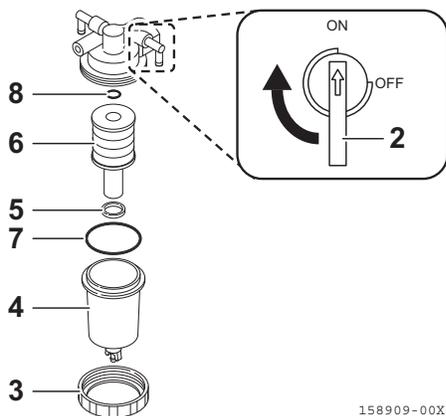

Fig. 8-45
2. After setting the fuel cock (Fig. 8-45, 2) to OFF (closed position), loosen the retainer ring (Fig. 8-45, 3) and remove the cup. Be careful not to loose the float (Fig. 8-45, 5) when removing the cup (Fig. 8-45, 4).
3. Remove the filter element (Fig. 8-45, 6) and clean the cup (Fig. 8-45, 4) and the filter element (Fig. 8-45, 6) using light oil or a washing oil.
4. Check the O-rings (Fig. 8-45, 7 and 8) and if either is damaged or deformed, replace it with a new one.
5. Attach the O-ring (Fig. 8-45, 8) and the filter element (Fig. 8-45, 6) to the water separator body.
6. Attach the O-ring (Fig. 8-45, 7) and the cup (Fig. 8-45, 4) containing the float (Fig. 8-45, 5) to the body of the water separator, and then attach the retainer ring (Fig. 8-45, 3).